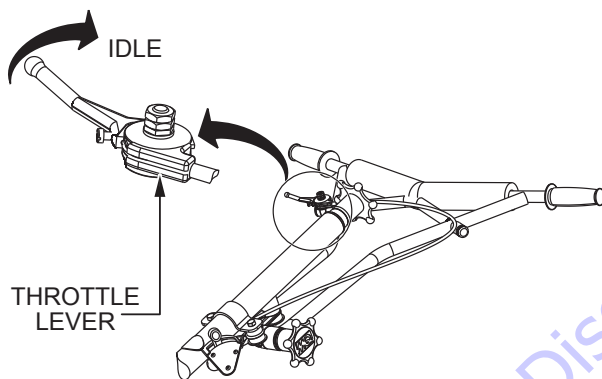

Figure 29. Throttle Lever (IDLE)
- Place the throttle lever in the **IDLE** position (Figure 29).